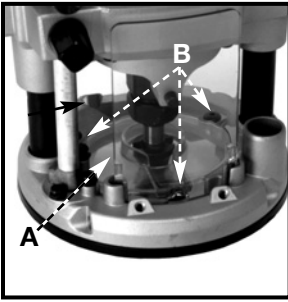

Fig. 2
1. Remove the clear dust cover (A) Fig. 2., and the three clear dust cover retaining screws (B) (slotted screw-driver or T20 torque wrench).